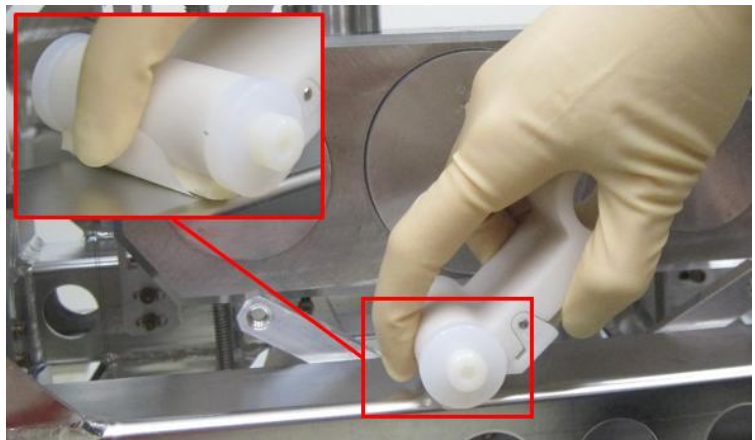

Figure 9. Correct swiping technique
- 6) Use a finger to hold the trailing edge of the filter to the swipe tool body without touching the sample collection area. The correct technique is demonstrated in Figure 9.